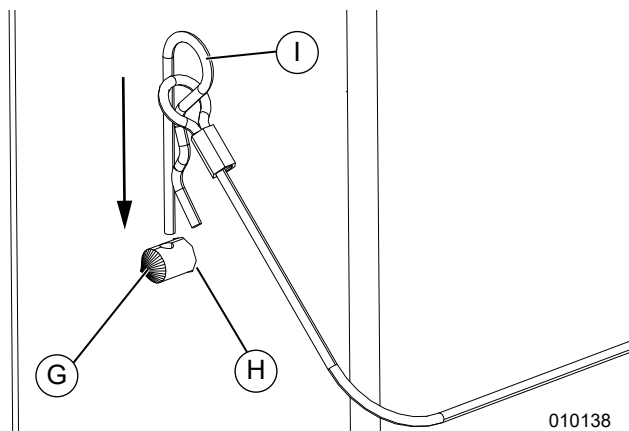

Figure 3-6. Mast Pin
- See **Figure 3-6**. Insert safety pin (G) into mast hole (H) and secure with hairpin (I).